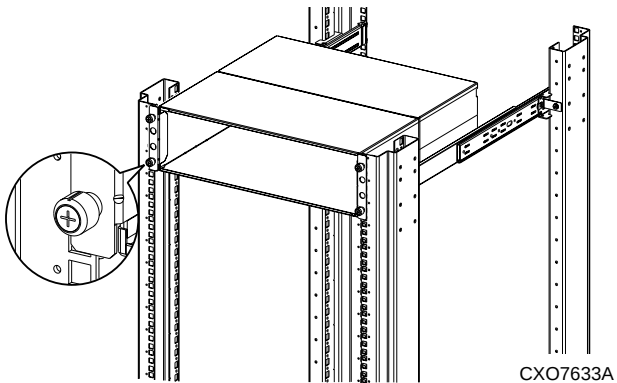

Figure 9: Captive screw fasteners
- Tighten the captive panel fasteners on each side of the enclosure-front. See Figure 9.